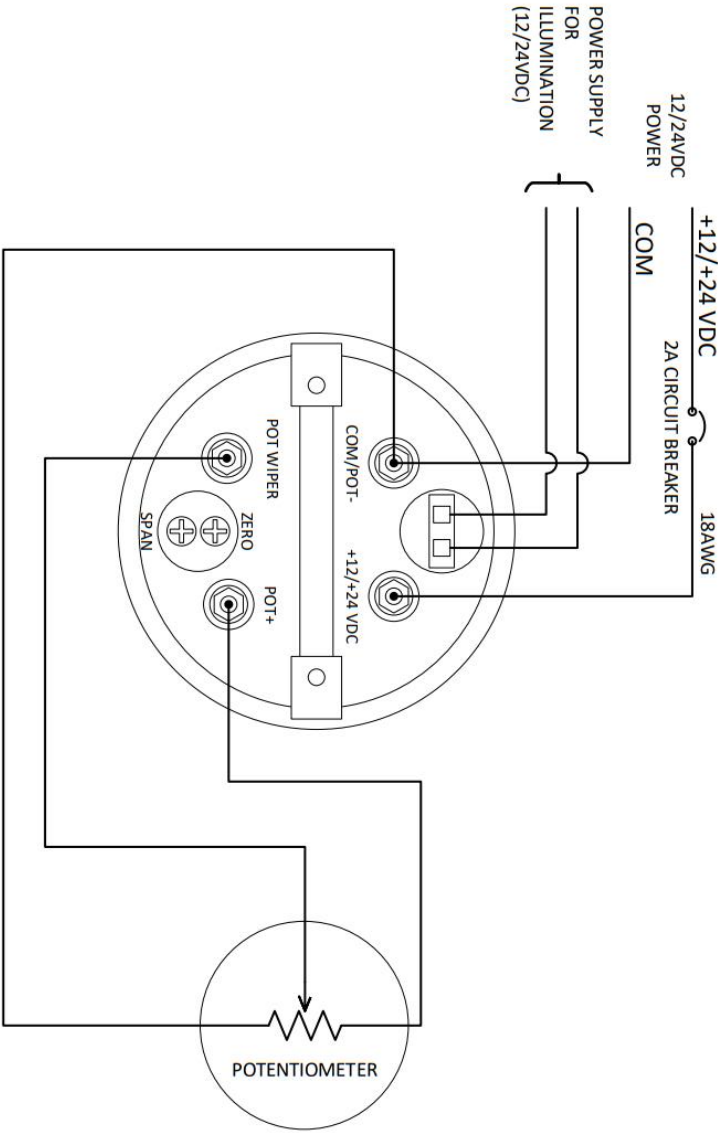
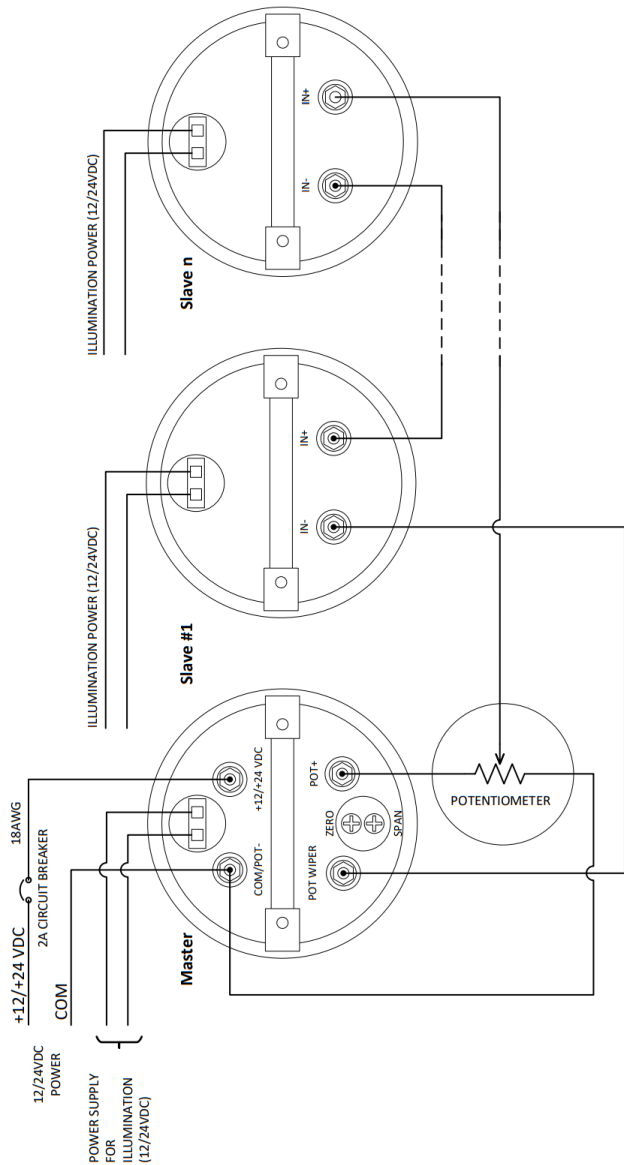

Figure 5: Master Unit Configuration
Figure 7: Master and Multiple Slave Units Configuration
1. Wire electrical cables and power wires, according to one of the configurations shown in Figure 5 through Figure 7 and the additional details in this section of the manual.